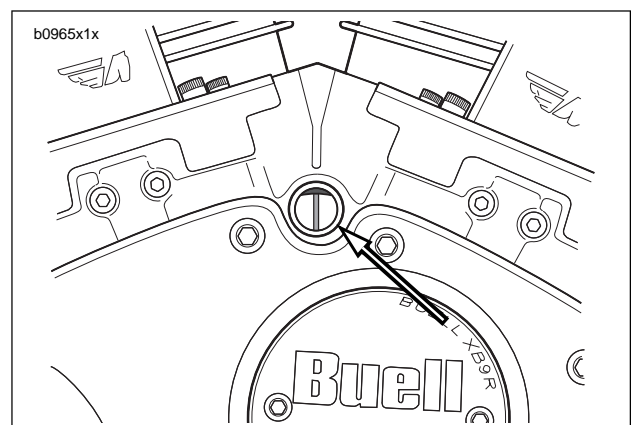

Figure 1-47. Correct Timing
10. See Figure 1-47. If the static timing is correct, the screen will switch to HIGH - 5 volts at the precise moment the timing mark exactly centers in the inspection window.